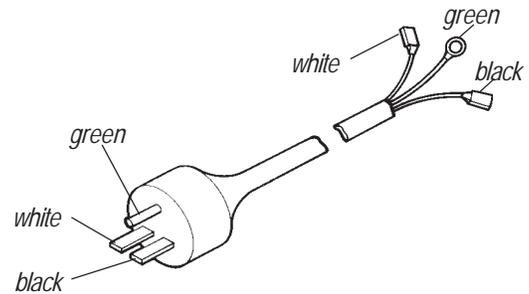

Figure A-3
- Figure A-3 diagrams the wiring for the 220/240 volt plugs. They should be connected as follows: